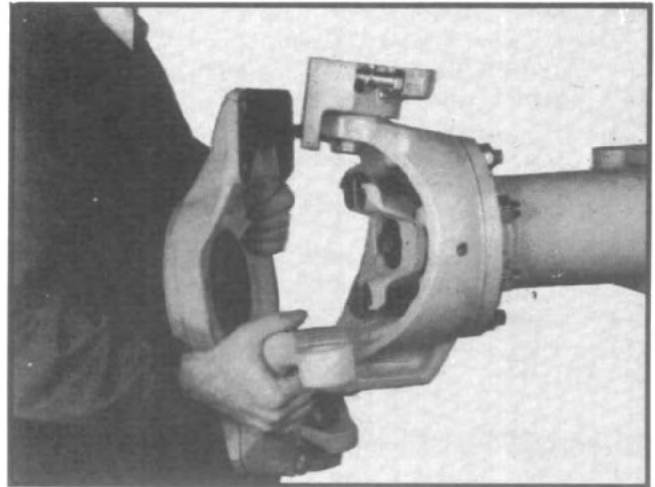

Fig. 21
5. Lower the spindle yoke and at the same time rotate the top outward. (See fig. 21.) This should allow the lower kingpin ball to come out of its socket in the suspension yoke. The spindle yoke can then be moved away from the axle.